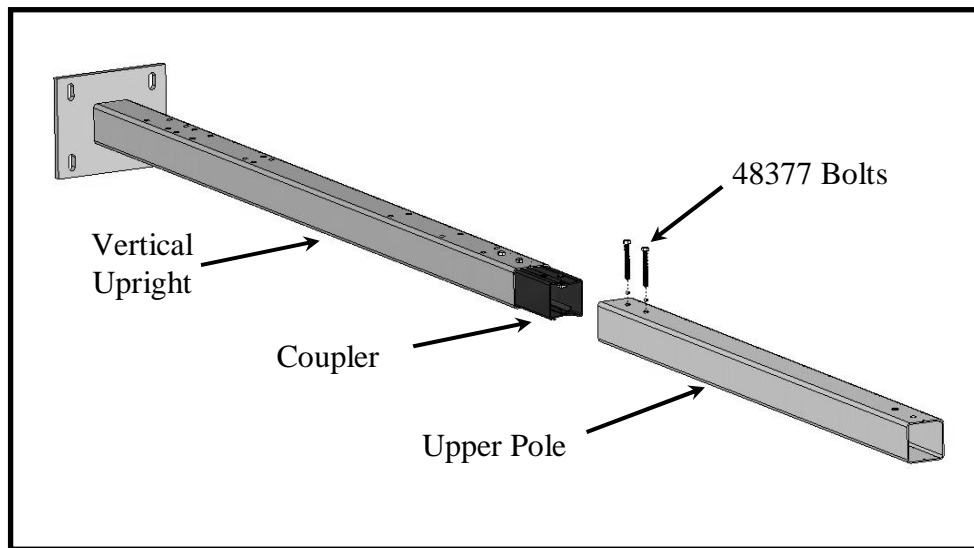

Figure 41 – Attach Upper Pole to Vertical Upright
- c) Slide the upper pole onto the coupler/vertical upright, insert (2) 48377 bolts.
- d) Tighten all (4) of the 48377 bolts evenly. *See Figure 41.*